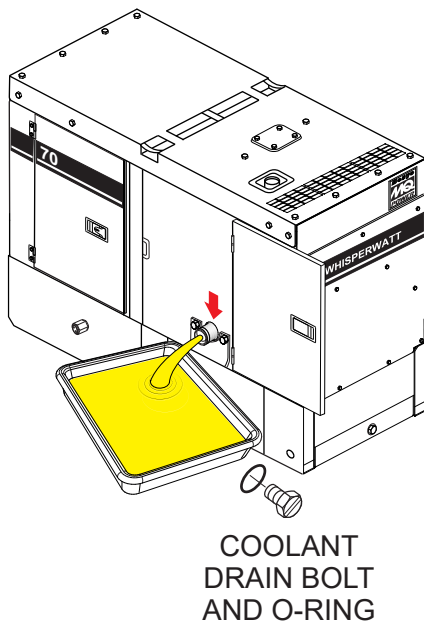

Figure 74. Draining The Engine Coolant
2. Open the cabinet door and remove the coolant drain bolt and O-ring (Figure 74), then allow the coolant to drain into a suitable container.